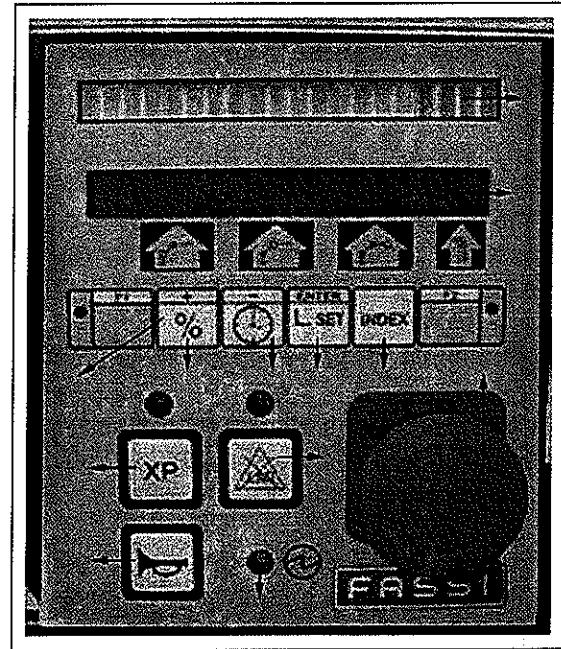

fig. 29a
22.2 Timer (fig. 29a) (if fitted)
- Press button **C1** (+) again to read “**Total time**” on the display. Fig. 29a